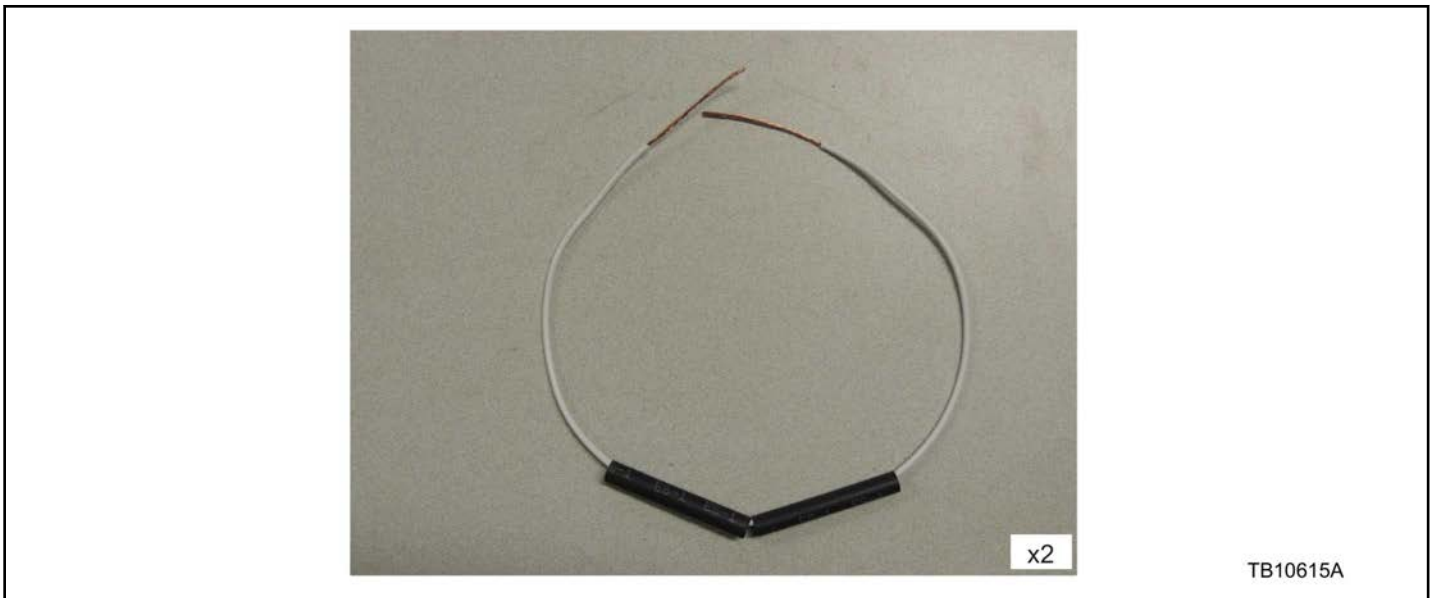

Figure 2 - Article 16-0161
11. Using the wire kit, prepare the wire for splicing as follows. (Figure 2)